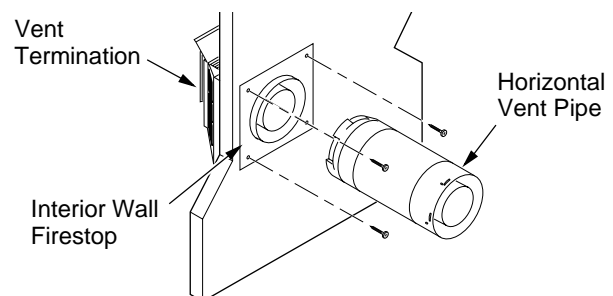

Figure 28 - Interior Wall Firestop
- Slide the interior wall firestop over the vent pipe before connecting the horizontal run to the vent cap (see Figure 28).
- Slide the interior wall firestop against the interior wall surface and attach with screws provided (see Figure 28).